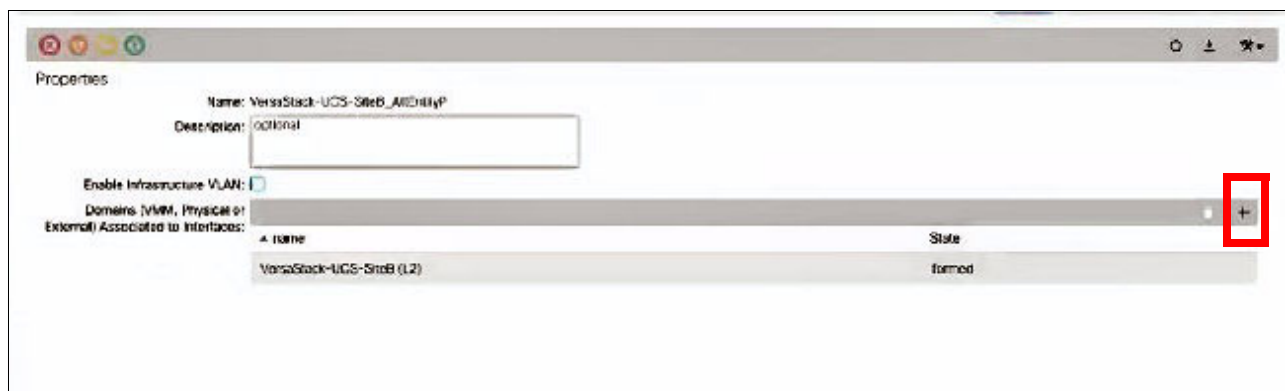

Figure 4-26 Domains option: Properties
3. Click the **+** mark to the far right of the **Domains** option within Properties, as shown in Figure 4-26.